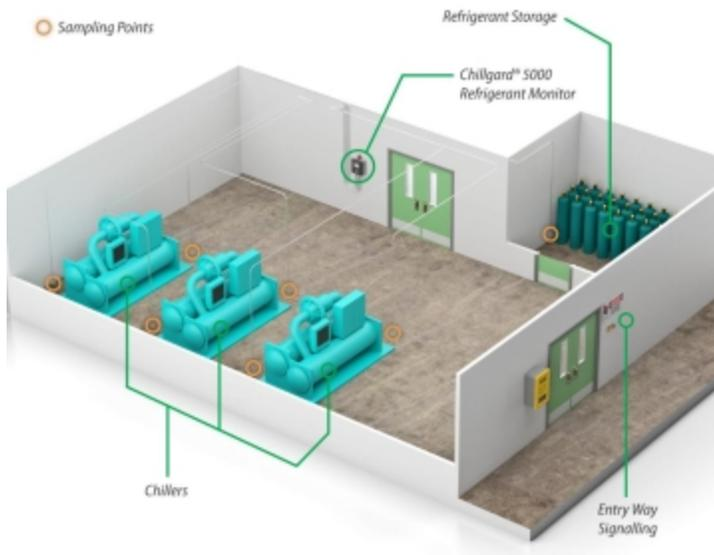
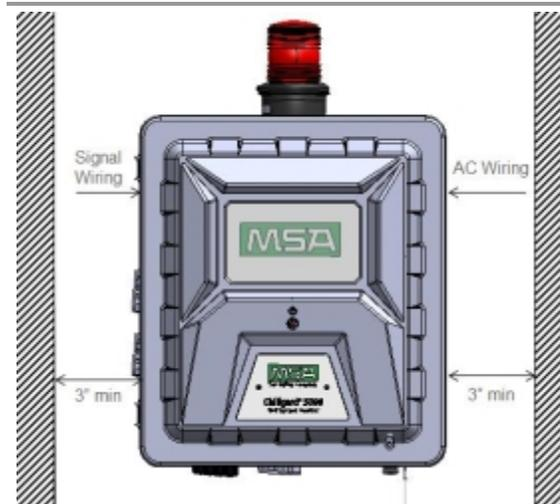

Figure 7 Mounting Location for refrigerants
Figure 9 Front of device
- Approximately 5 ft (1.5 m) above the ground (Figure 7 , Figure 9 ).
- With the appropriate hardware. Make sure the hardware is suitable for the mounting surface and can withstand 70 lb (9 kg) without loosening or causing damage to the hardware or mounting surface. Use all four mounting holes provided on the device (Figure 9 ).